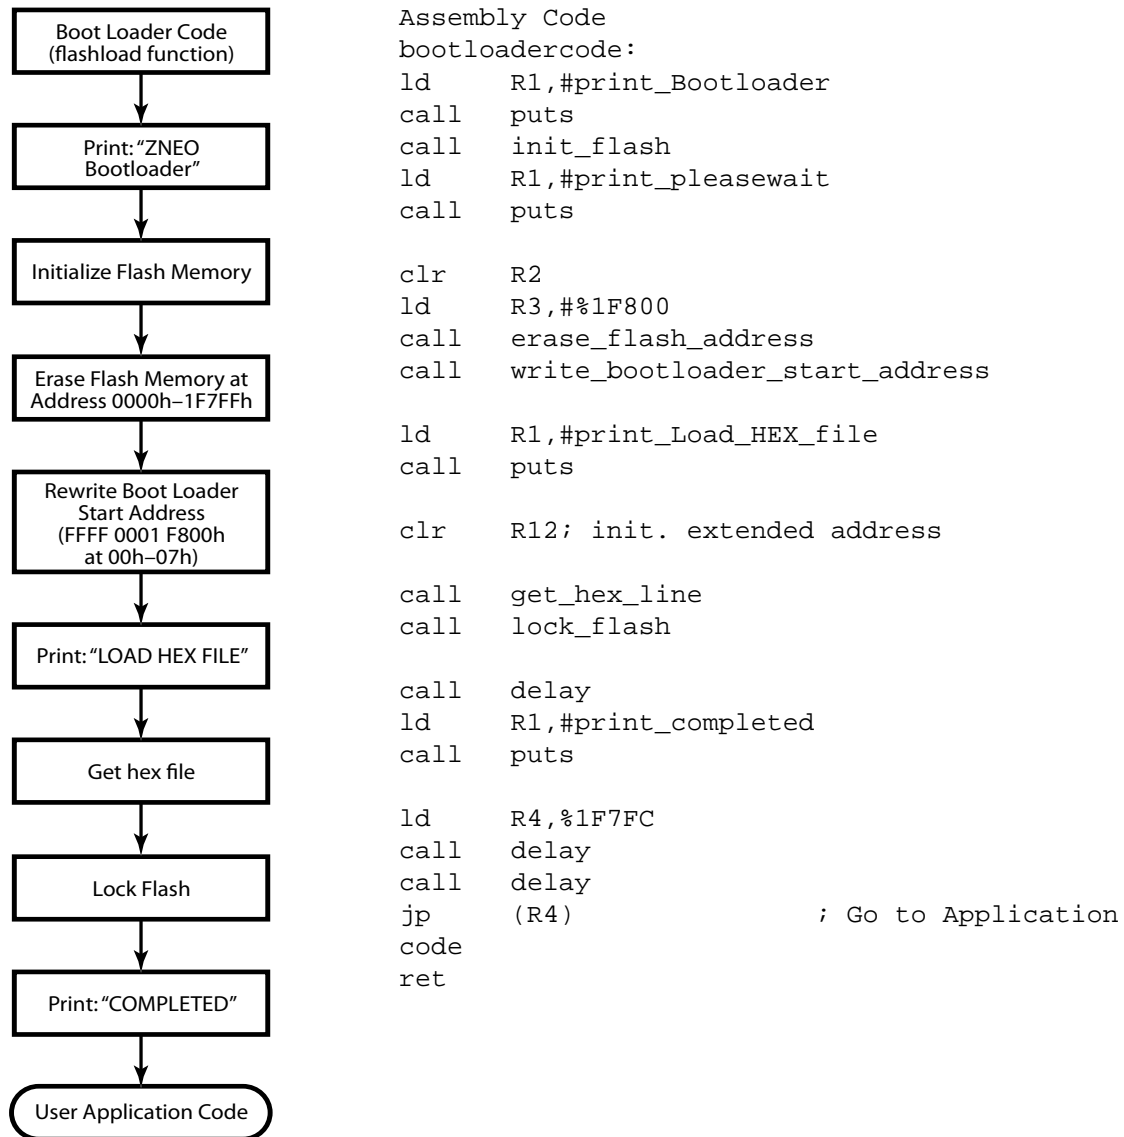

Figure 6. ZNEO Boot Loader Code: Flow Diagram and Assembly Code
8. Finally, the program counter shifts to the start address of the user application code to execute the downloaded application code see Figure 6.